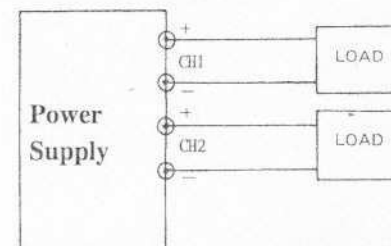

Fig. 5-2 Independent Operation
- Fig. 5-2 illustrates the connection procedure.